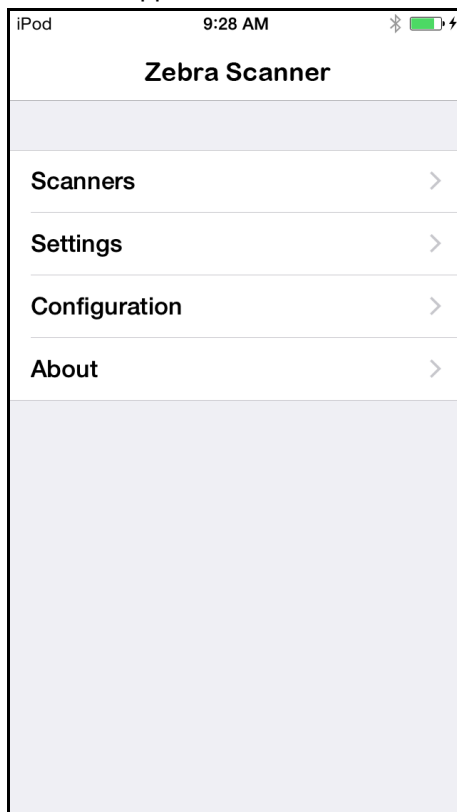

Figure 7-1 Home Screen
5. Touch the *Zebra Scanner for iOS* icon () on the device to launch the *Home* screen (Figure 7-1).
To display the *Scanners* screen touch *Scanners* from the *Home* screen (*Figure 7-1*). The *Scanners* screen displays all scanners paired and connected to the device. Select a device in the list to display the *Active Scanner* screen (see *Active Scanner Screen on page 7-5*). If no scanners were previously paired/connected, to the device, a connection is required (see *Connecting the Device and the Scanner*).
2. Touch *Scanners* from the *Home* screen (Figure 7-1). The following screen displays when the *Auto Detection* option is enabled.
To display the *Settings* screen touch *Settings* from the *Home* screen (*Figure 7-1*).
To display the *Scanner Configurations* screen touch *Configuration* from the *Home* screen (Figure 7-1).
To display the *About* screen touch *About* from the *Home* screen (Figure 7-1).